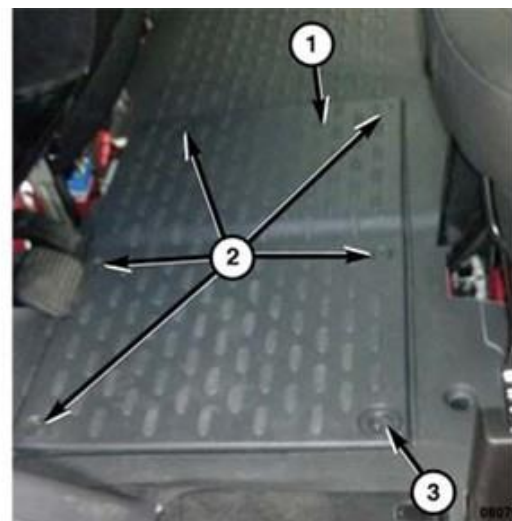

Figure 1 – Battery Cover
11. Remove the battery cover (1) by loosening fasteners (2, 3) (Figure 1).
37. Install the battery cover (1) and secure the fasteners (2, 3) (Figure 1).